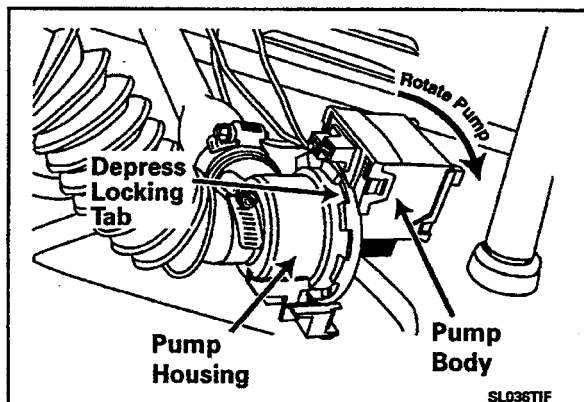

Figure 2-22
5. Rotate the pump assembly in a counter-clockwise direction. The support legs of the pump are slotted to engage in keyed slots in the base. Reverse the steps to remount the pump (*Figure 2-22*).